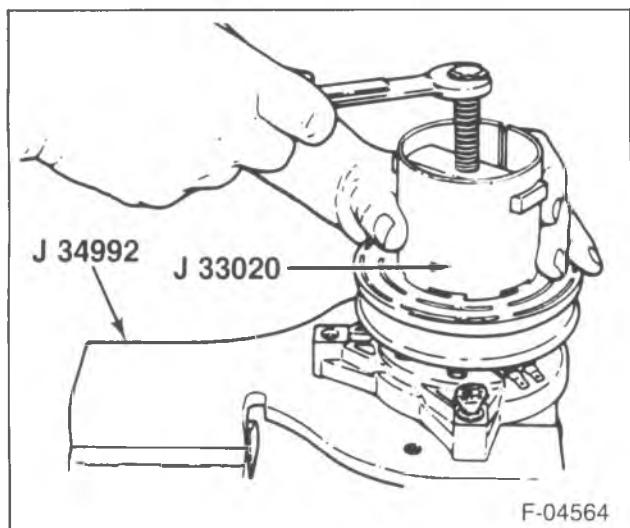

Figure 11—Removing the Pulley Rotor and Bearing Assembly
- Install J 33020 tangs into the inner circle of slots in the pulley (26) contact surface. Rotate J 33020 clockwise so the tangs will lock into the segments between the slots (figure 11).
- Hold J 33020 in place and tighten the puller screw against J 33023-A puller pilot to remove the pulley (26) (figure 11).